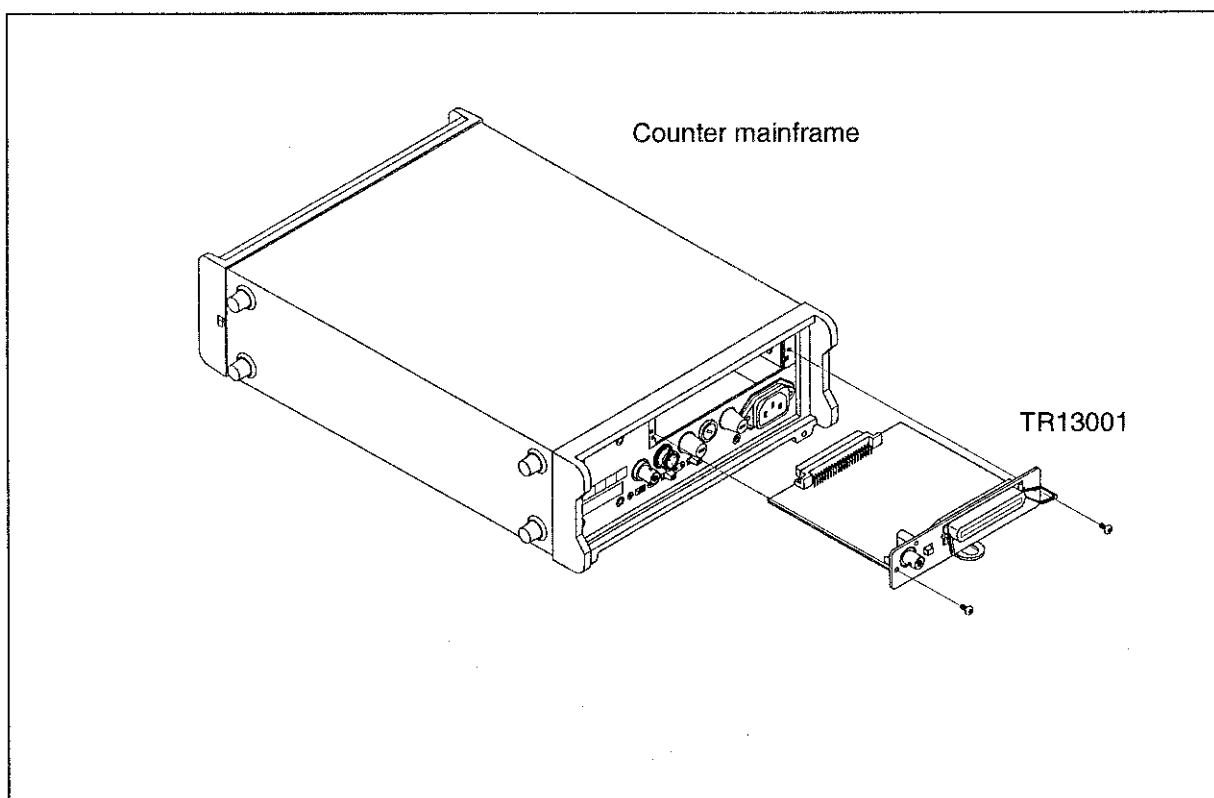

Figure 8-6 Installing the BCD unit in the counter
- ③ Install the unit in the counter as shown in Figure 8-6.